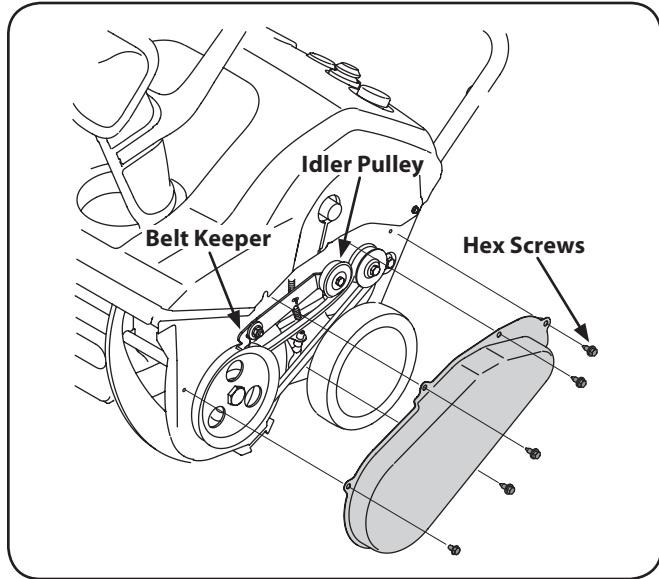

Figure 7-1
1. Remove the belt cover by removing the five hex screws that secure it to the frame. See Fig. 7-1.
NOTE: Push down on the idler puller to release the belt from under the belt keeper. See Fig. 7-1.